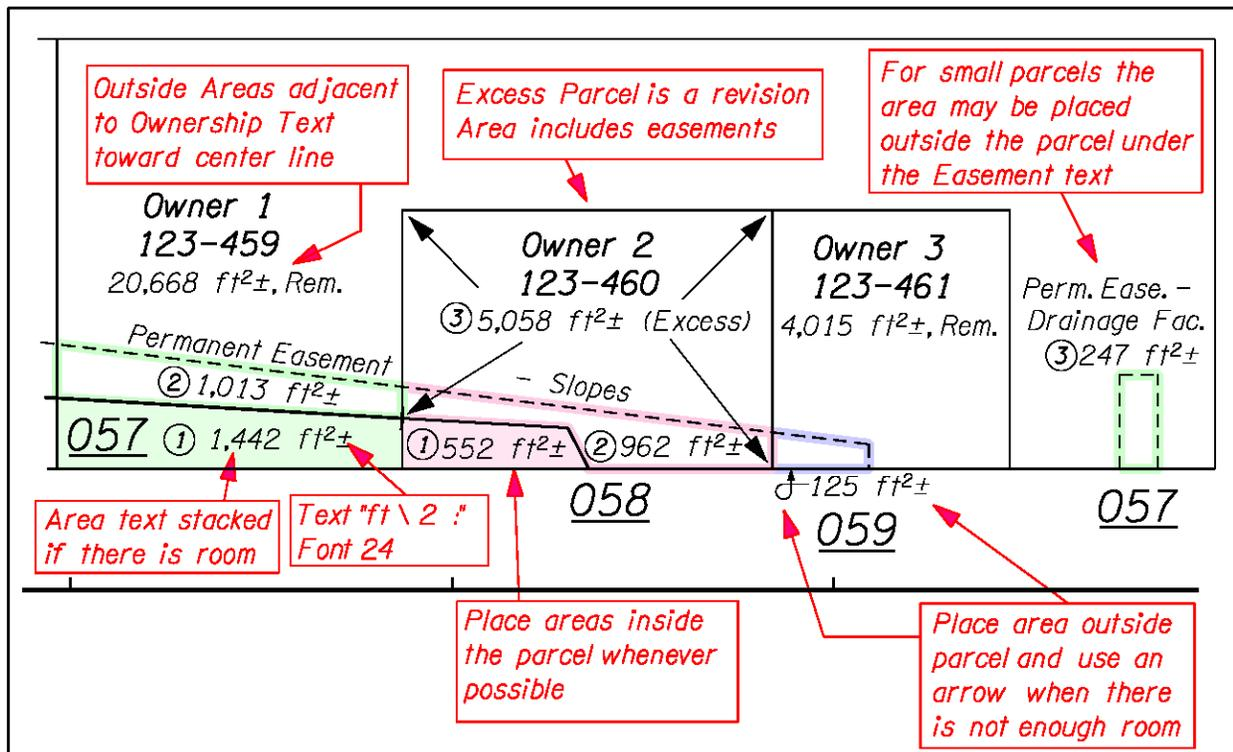

Figure 3-12
Shown in Figure 3-12 are preferences for placement of Parcel area text, with the most desirable on the left (057) and decreasing to the right (059). Place area text for parcels inside the parcel whenever there is room. When the parcels are stacked, (file 057) try to align the text to each other. Attempt to place the text within the parcel (058) even when it is not possible to stack the text. When there is not enough room to place the text inside the parcel, the preferable location is directly adjacent to the parcel area in the existing right of way, with an arrow pointing to the parcel (file 059). Parcel 3 of File 057 shows a good location for the area text of an isolated parcel, place the text with the name of the easement as shown. Place Parcel-area-text parallel to the centerline when possible. Calculate Parcel area to the closest square foot, when giving area in square feet. When area is in acres, show the number out to two decimal places.